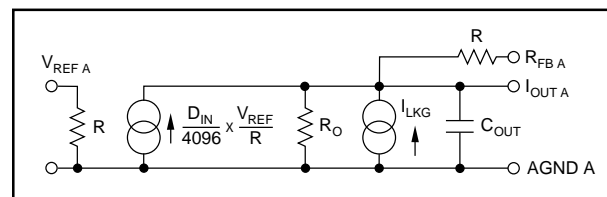

FIGURE 2. Equivalent Circuit for DAC A.
Figure 2 shows an equivalent circuit for DAC A. C_{OUT} is the output capacitance due to the N-channel switches and varies from about 30pF to 70pF with digital input code. The current source I_{LKG} is the combination of surface and junction leakages to the substrate. I_{LKG} approximately doubles every $10^\circ C$. R_O is the equivalent output resistance of the D/A and it varies with input code.
7. TERMINAL POSITIONS, NUMBER OF TERMINAL POSITIONS, NUMBER OF CORNER LEADS (1, 8, 9, AND 16) MAY BE CONFIGURED AS SHOWN IN FIGURE 2.